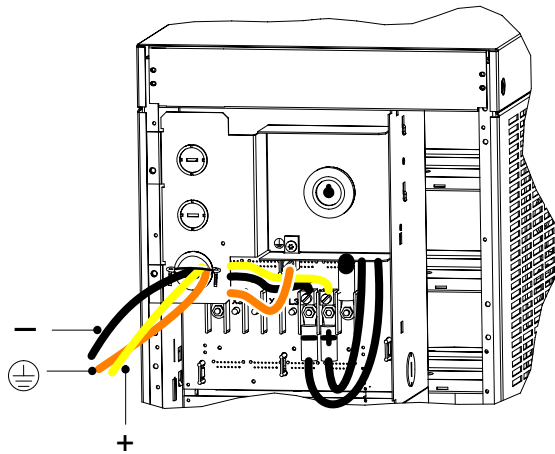

Figure 17. Battery Cable Installed in Battery Cabinet
16. If the battery cable will be installed in flexible or other conduit, pull the conductors through the conduit. Attach the conduit to both the UPS power entrance panel and the battery cabinet entrance panel as shown in Figure 17.
17. Secure the +, the —, and the ⊕ conductors to the proper compression lugs on the battery cabinet backplane as shown in Figure 17. Torque all three compression lugs to 75–85 in lb (8.5–9.6 Nm).